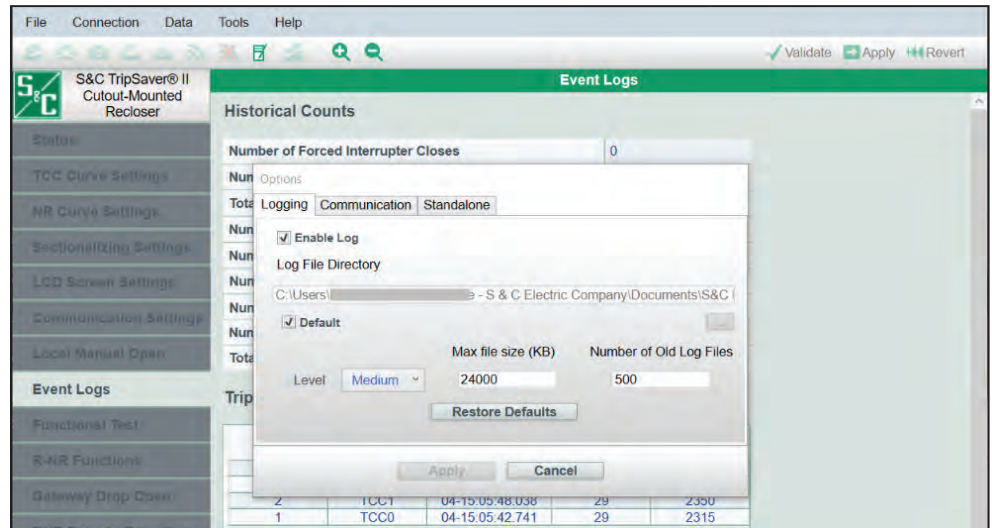
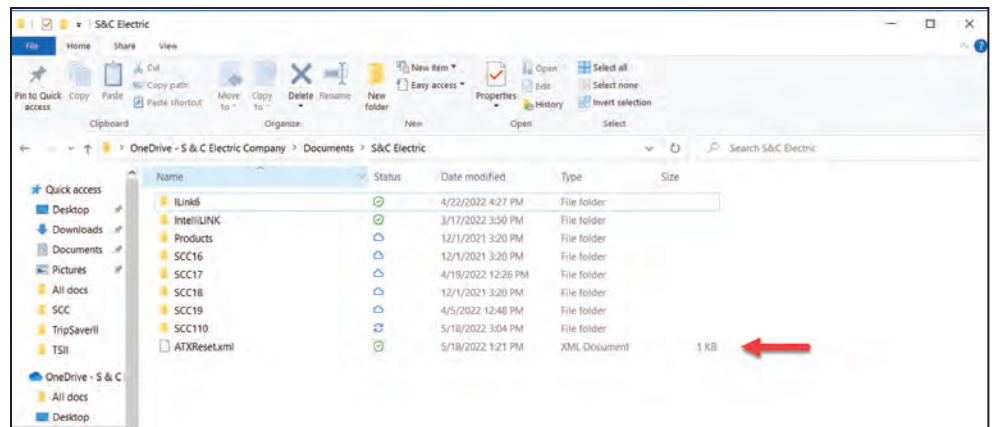
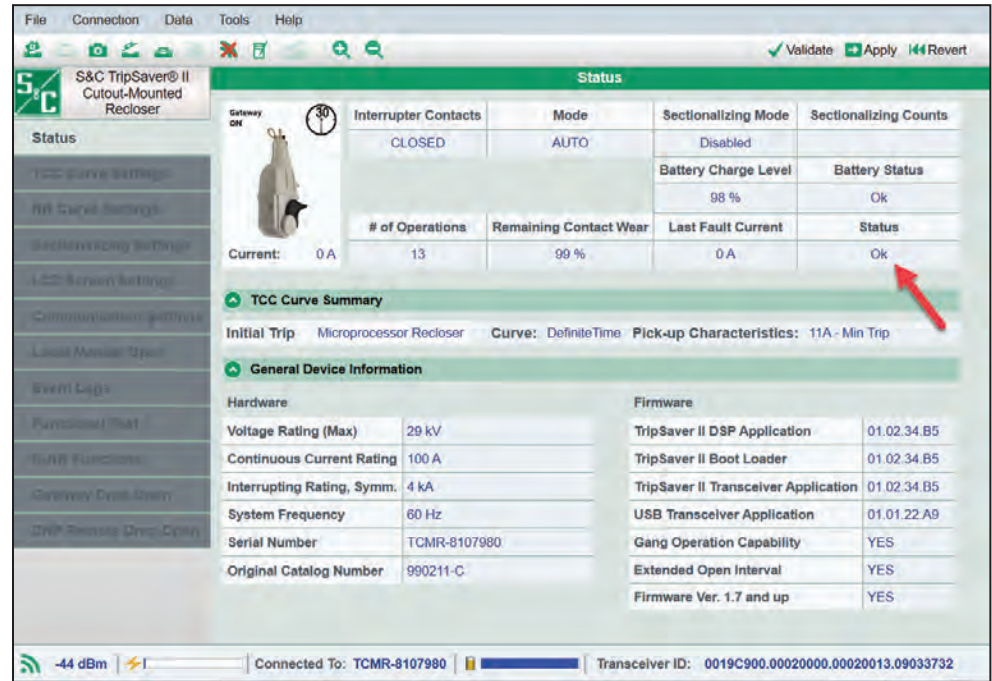

Figure 159. The default Log File Directory.
Figure 160. The location of the repair file will be the default Log File Directory.
Figure 164. The Status screen after a successful Clear Service Now reset procedure.
**STEP 4.** S&C will return the repair ATXReset.xml file. Place the repair file in the default Log File Directory. To find the default Log File Directory, select “Tools>Options” on the **Main** menu. See Figure 159 and Figure 160.
**STEP 8.** Navigate to the *Status* screen and check the status of the TripSaver II recloser. If the Status is **OK**, the **Service Now** status has been cleared. See Figure 164. Then, delete the ATXReset.xml file from the default log file directory. See Figure 160 on page 117. If the **Service Now** status is still present, contact the S&C Global Support and Monitoring Center at 1-888-762-1100.